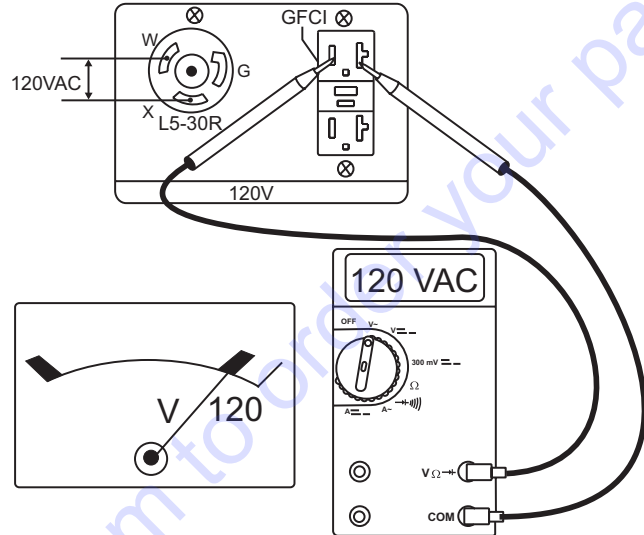

Figure 22. 120V Twist-Lock/GFCI Receptacles
10. Read voltmeter on front panel of generator (Figure 22) and verify that 120 VAC is displayed. Using an external voltmeter as shown in Figure 22, verify that 120 VAC is present at the 120V twist-lock and GFCI duplex receptacles.